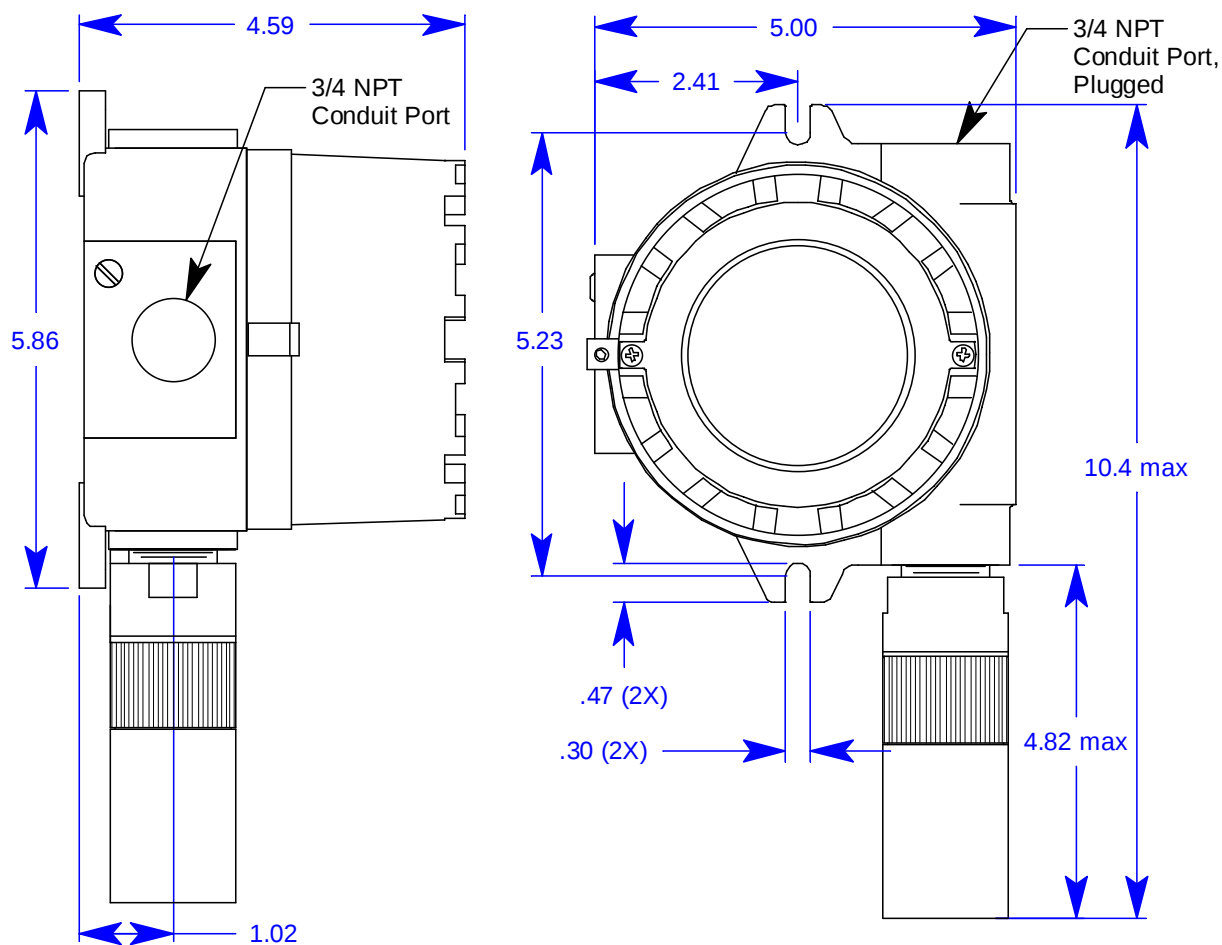

Figure 16: Outline & Mounting Dimensions, ESM-01 Toxic
2. At the monitoring site, use #10 screws through the junction box's two mounting holes to secure the junction box to a vertical surface. Figure 11 - Figure 16 show the outline and mounting dimensions for each version of the M2A. Mount the M2A with the detector facing down as shown in the following figures.